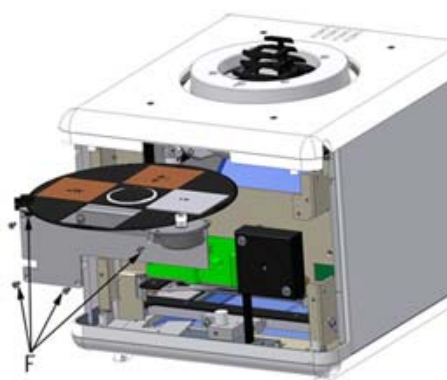

Fig. 3
- Unscrew the 4 screws **F** from the front partition and remove the filter group, see **Fig.3**